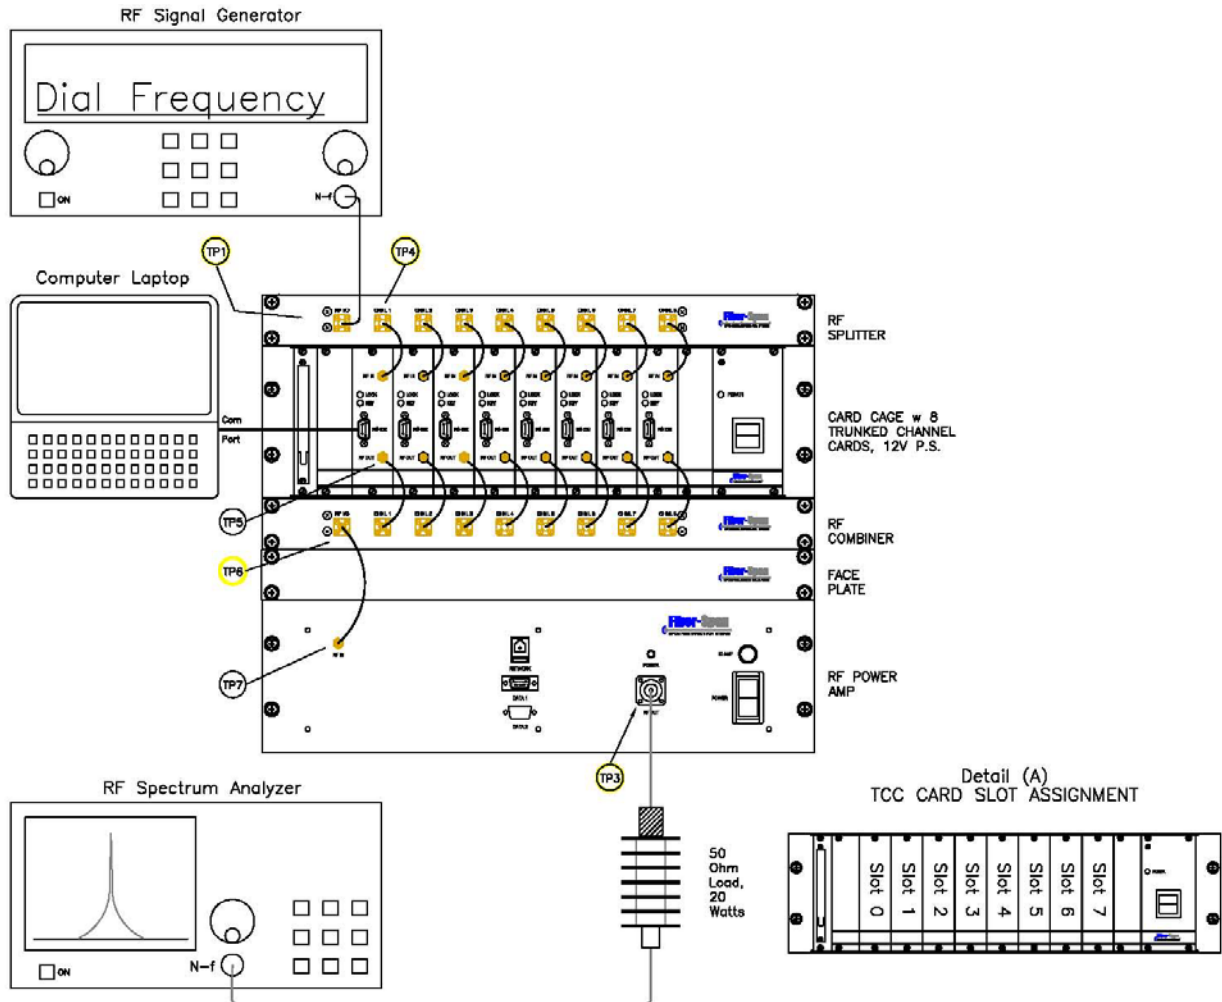

Figure 6
Solution 2b: The RF Combiner has in-line external RF cable connections. The common port that goes into the Power Amp and 8 Input RF cable one for each channel path. Check and confirm the path in question has the RF cables properly secured , tested and are known to work properly. Each RF Combiner channel path can be independently tested. See Figure 6 for detail Test Point (TP) to assist in trouble shooting.
Figure 6 illustrates an 8 Channel BDA with the Test Equipment Setup (TES).